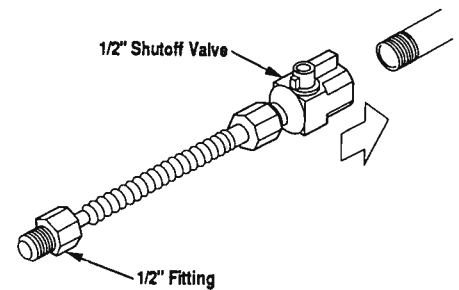

Figure 37
Step 5. 1/2" Flex Connector Procedure - Attach a 1/2" flex connector (12" length, 30° length if installed on a GCR-8000R or GPF-8000R unit) with a shut off valve to the 1/2" gas supply stub, using a wrench and pipe joint compound (where required). Tighten fitting securely (Figure 37).